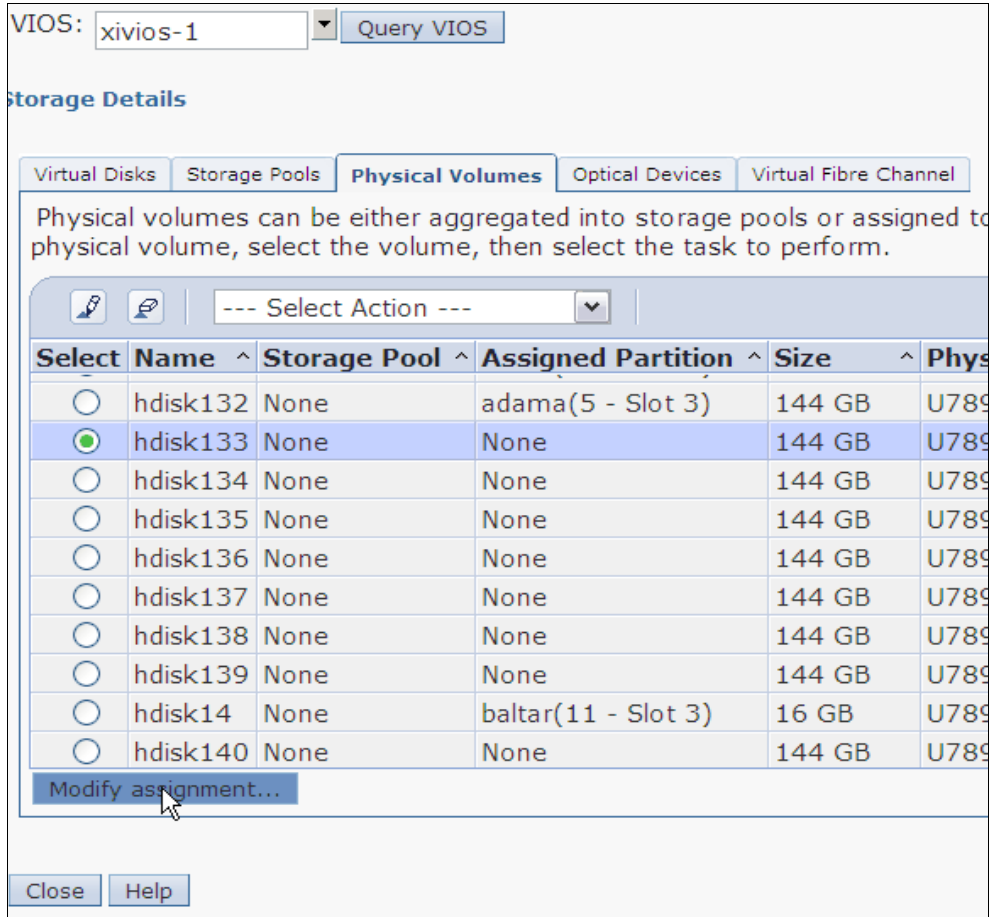

Figure 3-14 HMC: Modifying the assignment of physical volumes in the VIOS
4. After the Query VIOS results are shown, click the **Physical Volumes** tab to view the disk devices in the VIOS (Figure 3-14).